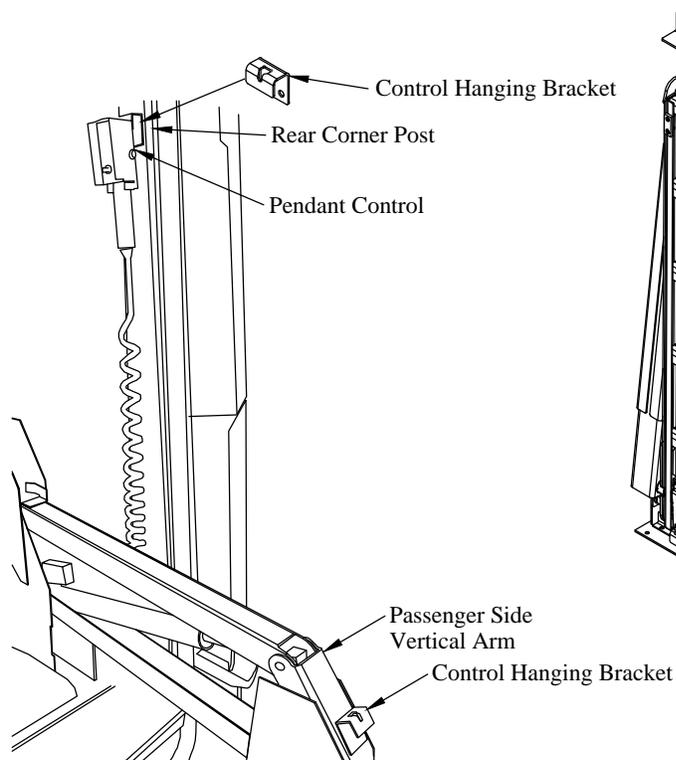

Figure 18: Control Hanging Brackets.
6. **Select** a location to install the control hanging bracket. Use a location on the passenger side rear corner post of the van at a height that allows the entire pendant cord to be completely inside the van when stored (Figure 18).
11. **Install** second control hanging bracket with supplied 3/8" bolts on the passenger side vertical arm where the lifting angle was removed (Figure 18).